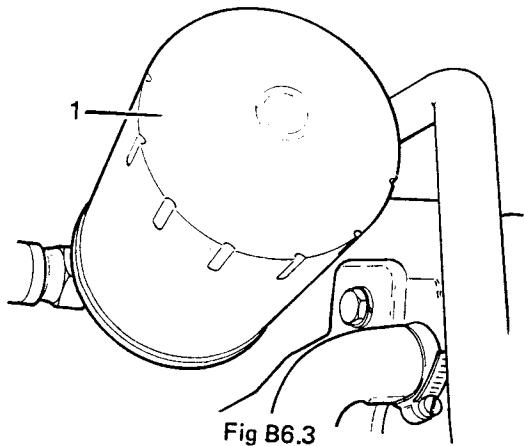

Fig B6.3
6. Refer to Fig B6.3. The filter (1) is located on the left hand side of the engine. Change the filter every 10 000 km or 6 months.